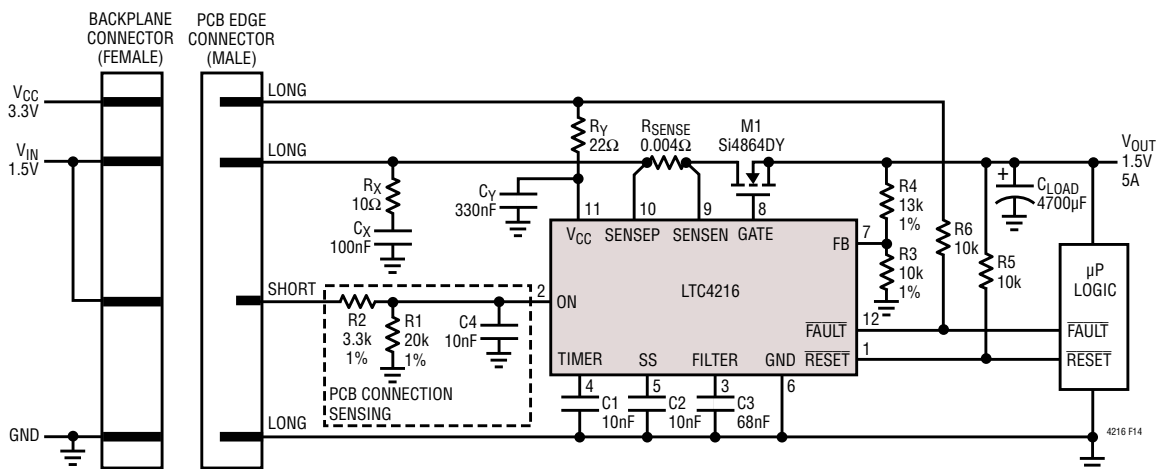

Figure 14. Single Channel 1.5V Hot Swap Controller
The LTC4216 can be used on either the backplane side of the connector or a printed circuit board, and examples for both are shown in Figure 14 and 15. Printed circuit board edge connectors with staggered pins are recommended as the insertion and removal of circuit boards will sequence the pin connections. Supplies ( $V_{CC}$  and SENSEP) and ground connections on the printed circuit board should be wired to the long pins or blades of the edge connector. Control signal (ON) and status signals ( $\overline{\text{RESET}}$  and  $\overline{\text{FAULT}}$ ) passing through the edge connector should be wired to short pins or blades.
An example is shown in Figure 14, in which the LTC4216 is mounted on the PCB and the R1/R2 resistive divider is connected to the ON pin. On the edge connector, R2 is wired to a short pin. Before the connectors are mated, the ON pin is held low by R1, keeping the LTC4216 in an off state. When the connectors are mated, the resistive divider is connected to the load supply ( $V_{IN}$ ) and the ON pin voltage rises above 0.8V, turning the LTC4216 on.